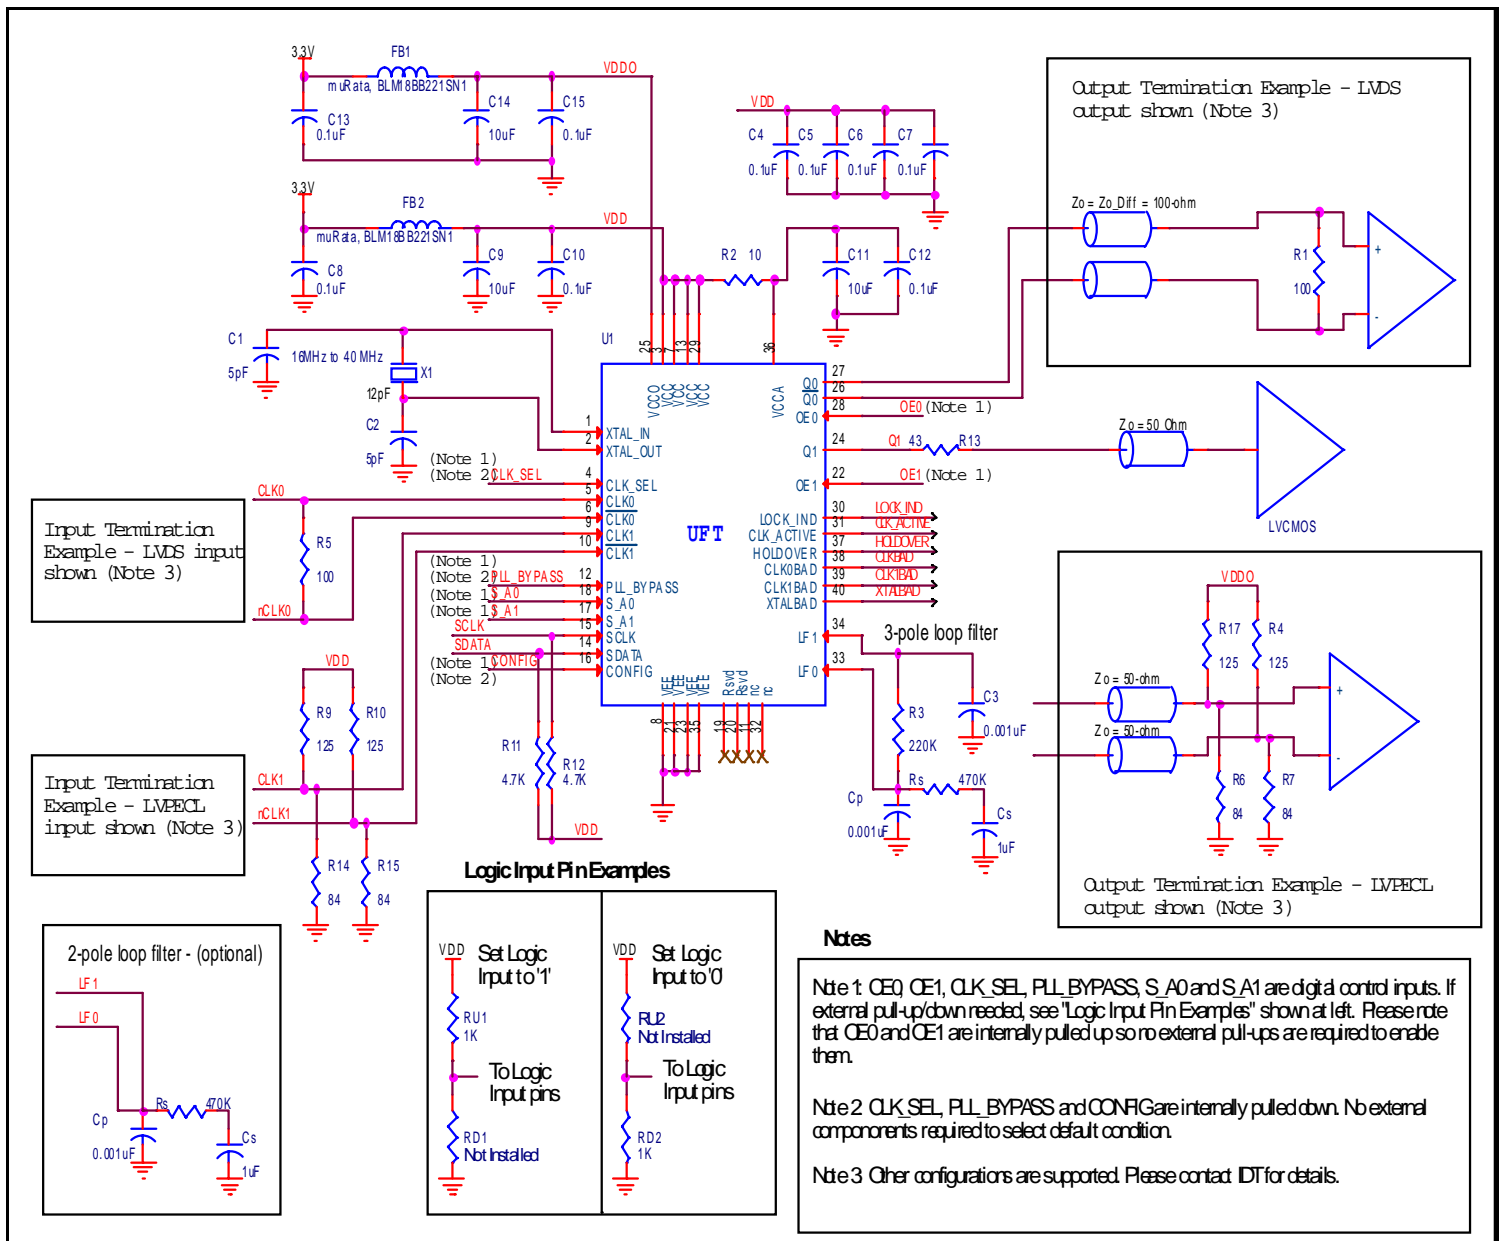

Figure 10. ICS849N212I Schematic Layout
*Figure 10* (next page shows an example of the ICS849N212I application schematic. Input and output terminations shown are intended as examples only and may not represent the exact user configuration. In this example, the device is operated at  $V_{CC} = 3.3V$ . For 2.5V option, please refer to the “Termination for 2.5V LVPECL Outputs” for output termination recommendation. The decoupling capacitors should be located as close as possible to the power pin. A 12pF parallel resonant 16MHz to 40MHz crystal is used in this example. Different crystal frequencies may be used. The  $C1 = C2 = 5pF$  are recommended for frequency accuracy. If different crystal types are used, please consult IDT for recommendations. For different board layout, the C1 and C2 may be slightly adjusted for optimizing frequency accuracy. It is recommended that the loop filter components be laid out for the 3-pole option. This will also allow either 2-pole or 3-pole filter to be used. The 3-pole filter can be used for additional spur reduction. If a 2-pole filter construction is used, the LF0 and LF1 pins must be tied-together to the filter.